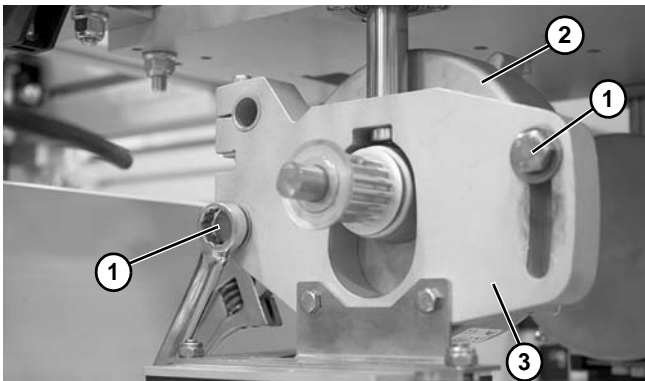

Figure 117
4. Remove hardware (**Figure 117, item 1**) securing motor (**Figure 117, item 2**) to bracket (**Figure 117, item 3**).
2. Remove flat head screws (**Figure 117, item 1**) and wearstrip (**Figure 117, item 2**).